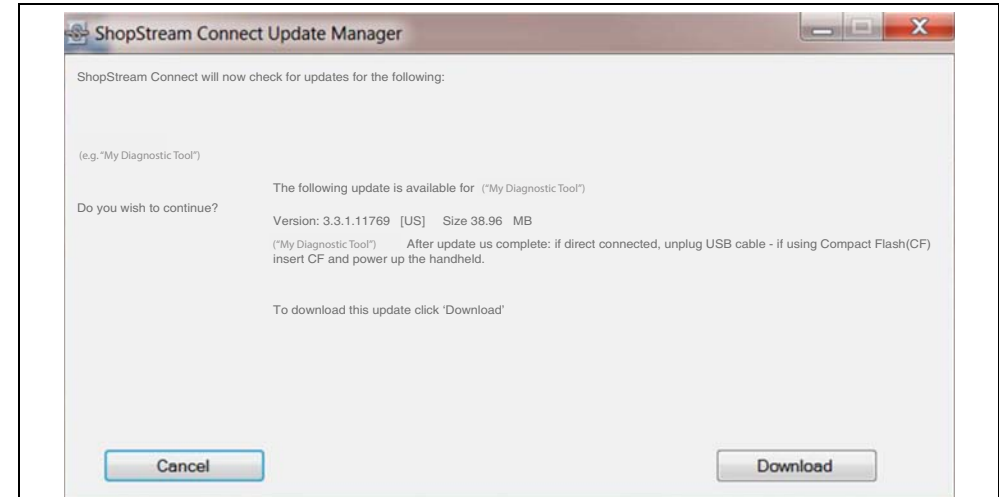

Figure 8-11
2. If service release updates are available, select **Next** to continue, then select **Download** and follow the on-screen instructions to complete the installation (Figure 8-11).